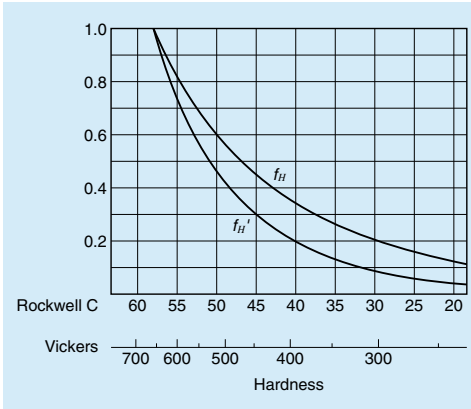

Fig. 2.6 Hardness coefficient
- f_H : Hardness coefficient (Refer to Fig. 2.6)
- $f_{H'}$: Static hardness coefficient (Refer to Fig. 2.6)